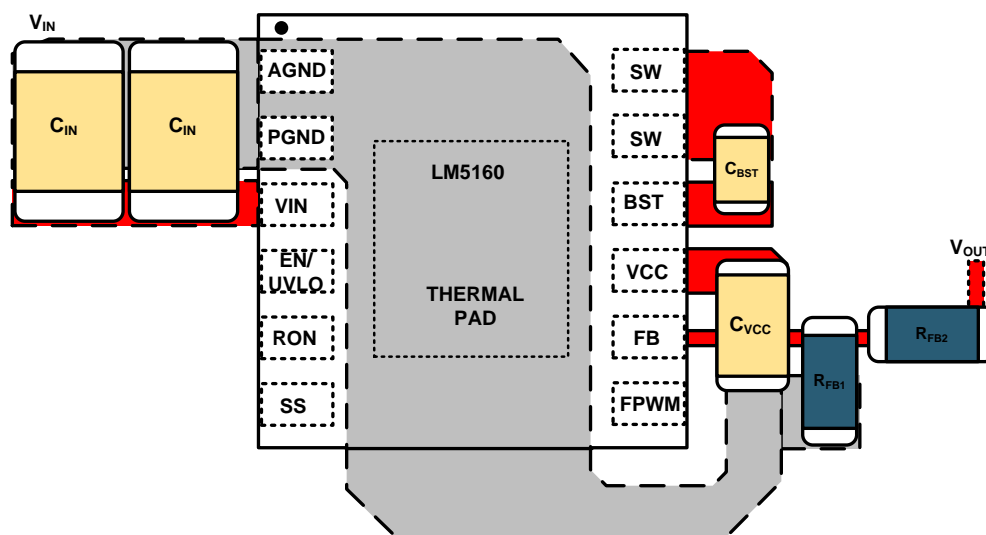

Figure 35. Placement of Bypass Capacitors
- C_{IN} : The loop consisting of input capacitor (C_{IN}), VIN pin and PGND pin carries the switching current. The input capacitor must be placed close to the IC, directly across VIN and PGND pins, and the connections to these two pins must be direct to minimize the switching power loop area. In general, it is not possible to place all of input capacitances near the IC. A good layout practice includes placing the bulk capacitor(s) as close as possible to the VIN pin (see Figure 35). A bypass capacitor measuring 0.1 μ F must be placed directly across VIN and PGND (pin 3 and 2, respectively), as close as possible to the IC while complying with all layout design rules.
- C_{VCC} and C_{BST} : The VCC and bootstrap (BST) bypass capacitors supply switching currents to the high-side and low-side gate drivers. These two capacitors must also be placed as close to the IC as possible, and the connecting trace length and loop area must be minimized (see Figure 35).